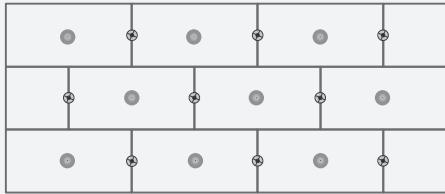

Figure 1
- Polypropylene fixings can be used on the junctions. (Figure 1)